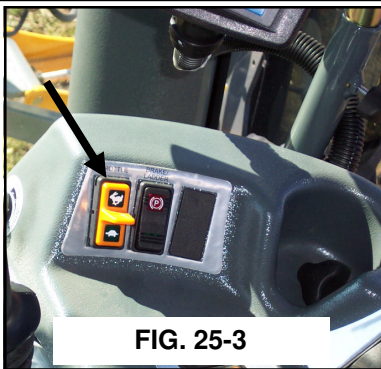

FIG. 25-3
**THROTTLE SWITCH**- The throttle switch (fig. 25-3) is used to control engine RPM. There are 2 settings that are controlled by the switch, high and low, with a RPM range of 800 to 2500.